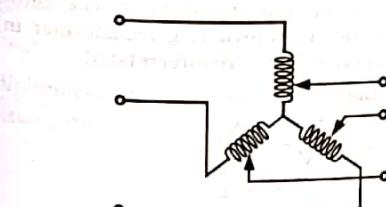

Fig. 4.21.3. A 3φ star-connected auto-transformer.
4. A three-phase star-connected auto-transformer is shown in Fig. 4.21.3.